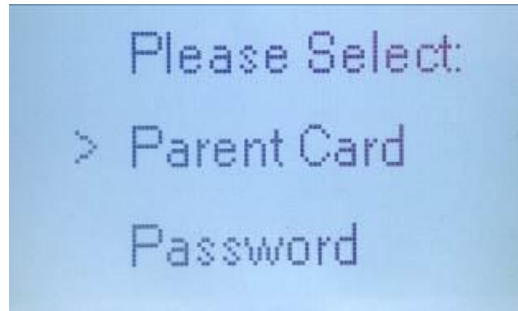

Figure 4-10
- c) Select parent card and then click “#” to confirm. See Figure 4-10.